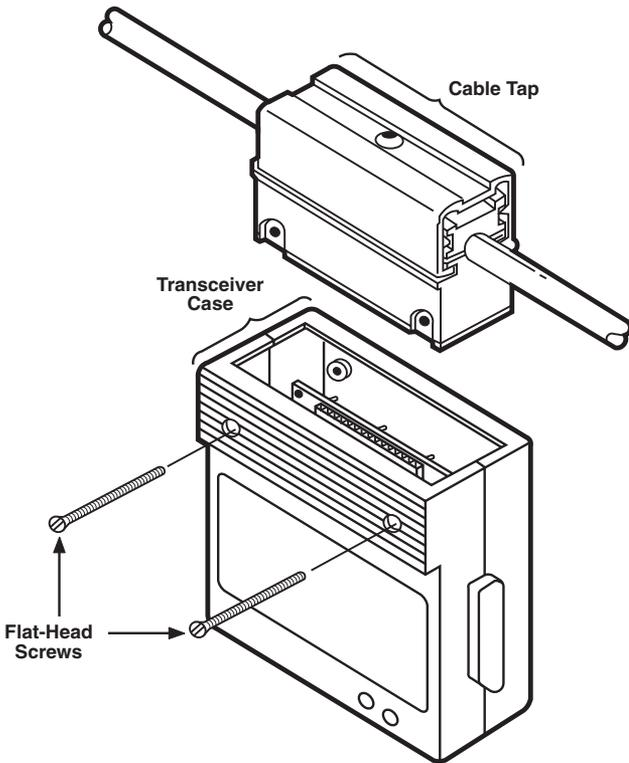

Figure 3-8. Inserting the Flat-Head Screws.
13. Insert and tighten the flat-head screws as shown in Figure 3-8. They should fit snugly into the tap.
1. The SQE Test default setting is On. If you want to disable this test, remove the tap assembly and set the switch according to the instructions given in Section 3.2. To remove the tap assembly, remove the flat-head screws (Figure 3-8) and pull the tap from the unit.